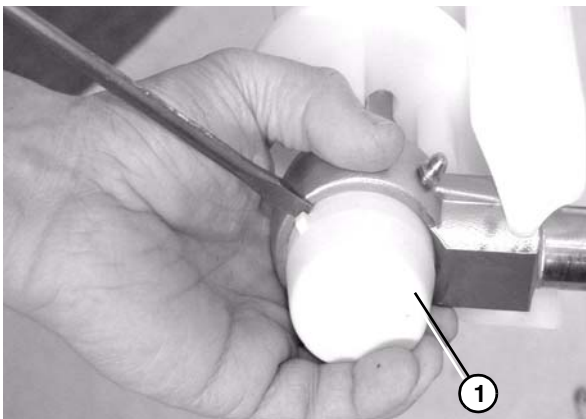

Figure 66
3. Remove the bearing cover (Figure 66, item 1).
6. Attach the bearing covers. Reference (Figure 66).
5. Replace the bearing. Reference (**Figure 66**).